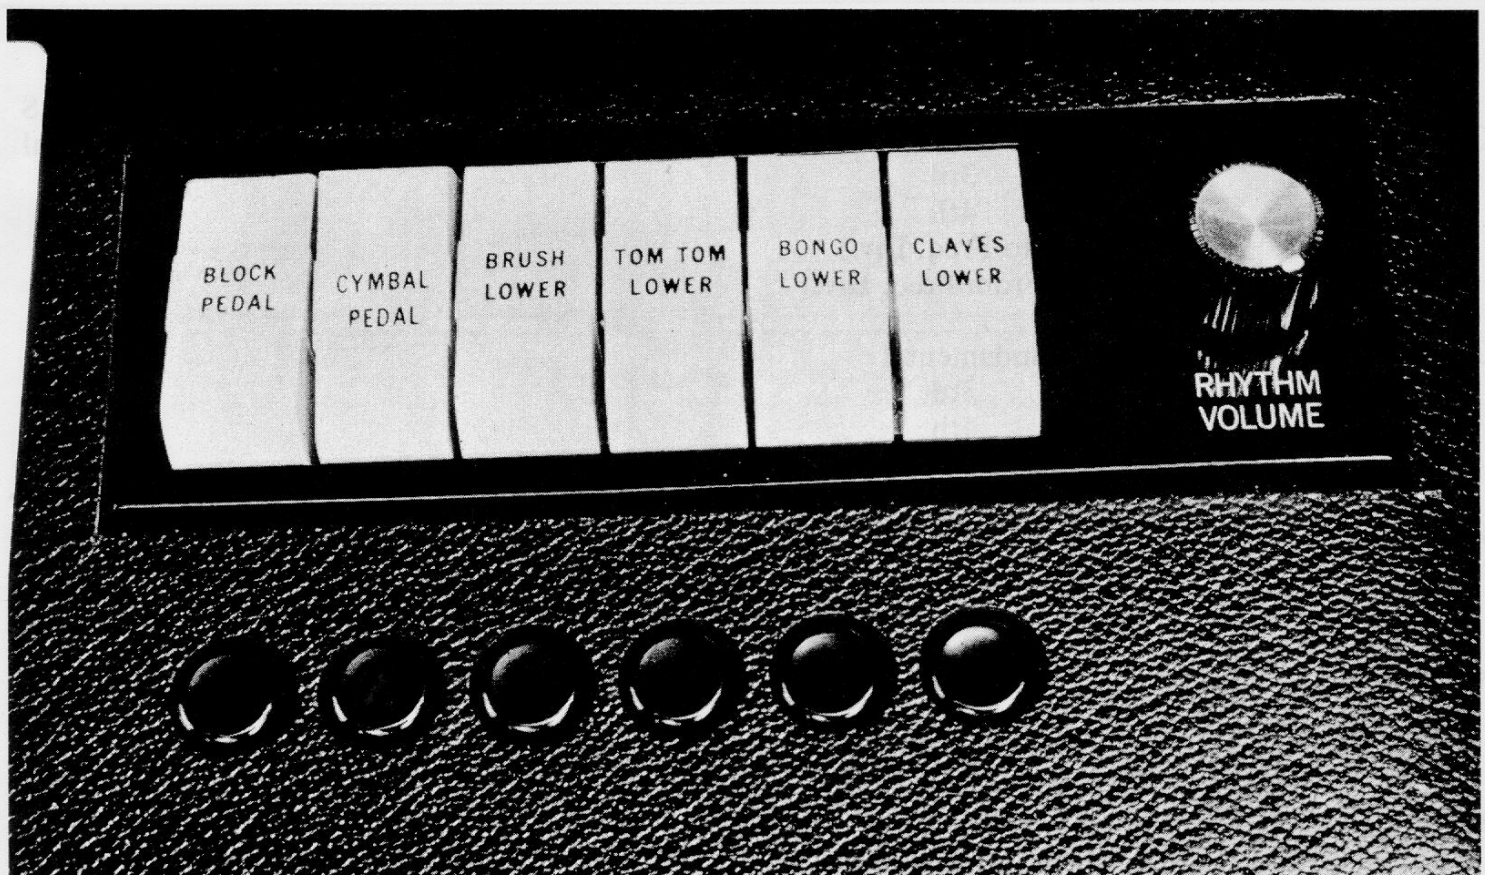

Figure 1-11. L-100-1 Six-Voice Percussion Controls
**1-18. L-100-1 SIX-VOICE PERCUSSION FEATURE (See Figure 1-11).** —